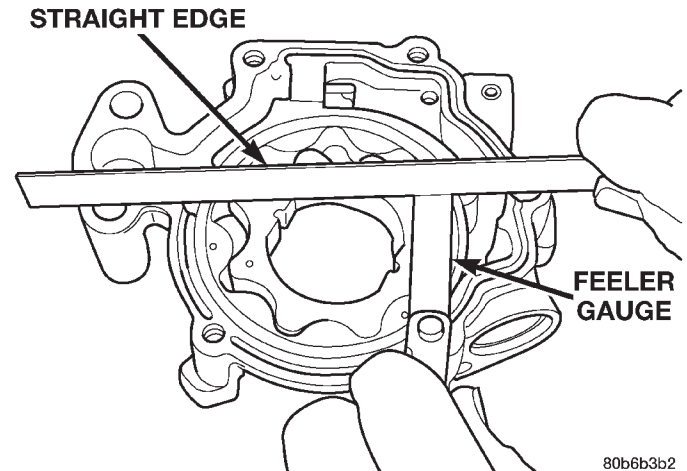

Fig. 123 Measuring Clearance Over Rotors
(8) Place a straight edge across the body of the oil pump (between the bolt holes), if a feeler gauge of .095 mm (0.0038 in.) or greater can be inserted between the straightedge and the rotors, the pump must be replaced (Fig. 123).